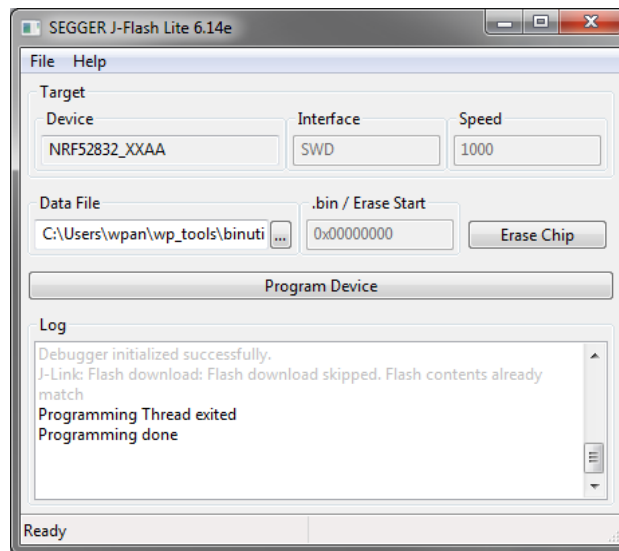

Figure 6 DWM1001 DEV board – micro USB connection
- 1) Connect the module with a micro USB data cable, shown in Figure 6.
The UART connection can be setup simply through a USB data cable as shown in Figure 6. To find the device name of the DWM1001 DEV board in the Windows system: